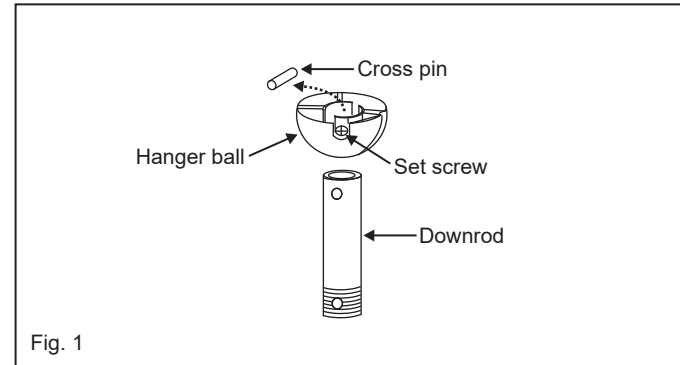

Fig. 1
- 1 Remove ball from downrod by loosening set screw in the side of the ball. Slide ball down and remove ball pin; remove ball. (Fig. 1)
1. Insert the receiver into the ceiling mounting bracket with the flat side of the receiver facing the ceiling. (Fig. 1) For best performance, make sure the Black Antenna and WIFI Antenna, on the end of the receiver, remains extended and not tangled with any of the electrical wires.
- 1 Remove one of the three screws on the mounting hub located on the fan motor. Loosen the other 2 screws. (Do not remove) (Fig. 1)